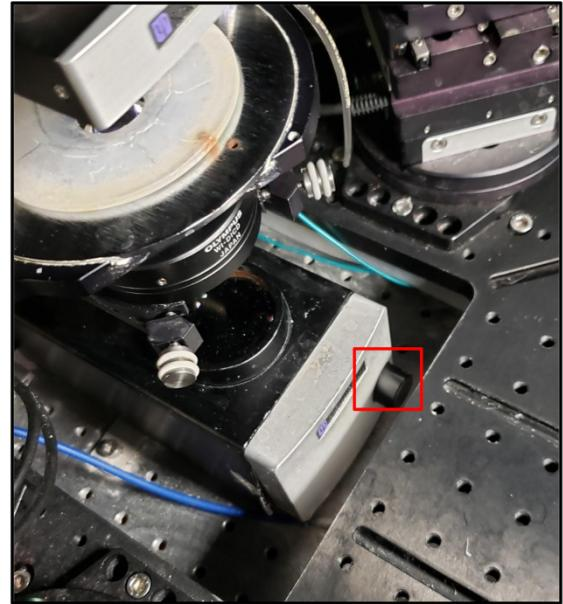

Figure 9: The knob which controls the field stop aperture.
- Using the knob on the Field Stop Aperture (Figure 9), partially close the aperture enough so that the edge is visible on the screen.